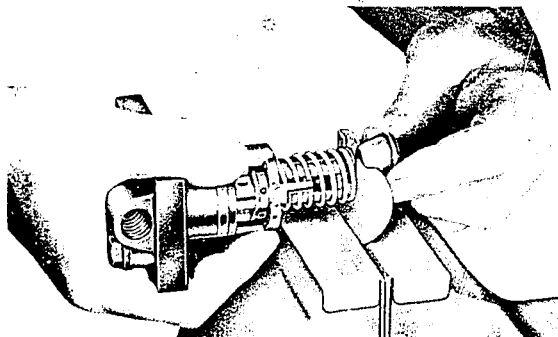
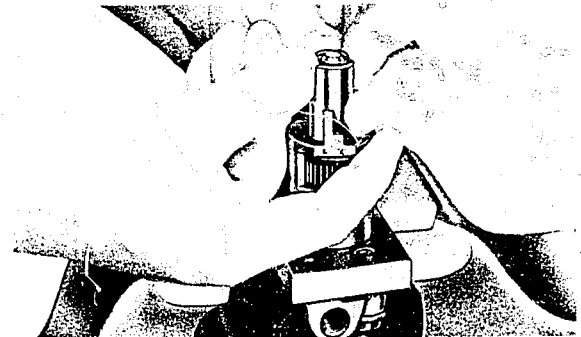

Figure 4
Figure 5
5. Remove the holding plate with pump housing from vise. Place plunger spring compressing tool TSE 7694-1 in the vise as shown (See Figure 4). Carefully slip the lower spring seat into the compressing tool so that the lower
spring seat (10) and the bottom coil of plunger spring (7) are separated by the compressing tool (See Figure 4). Compress the spring (See Figure 5), and slide off lower spring seat (10). Remove plunger spring (7).
6. Remove the compressing tool from the vise and replace the holding plate with pump housing in the vise with plunger facing upward. Remove plunger retaining spring ring (8). The ring may be removed either by using the thumb. (See Figure 5) or masking a pair of long nosed pliers. Carefully withdraw plunger (17) and place it on a clean piece of paper, preferably wax paper.
7. Loosen clamping screw (19).
8. Remove barrel locating screw (4) and